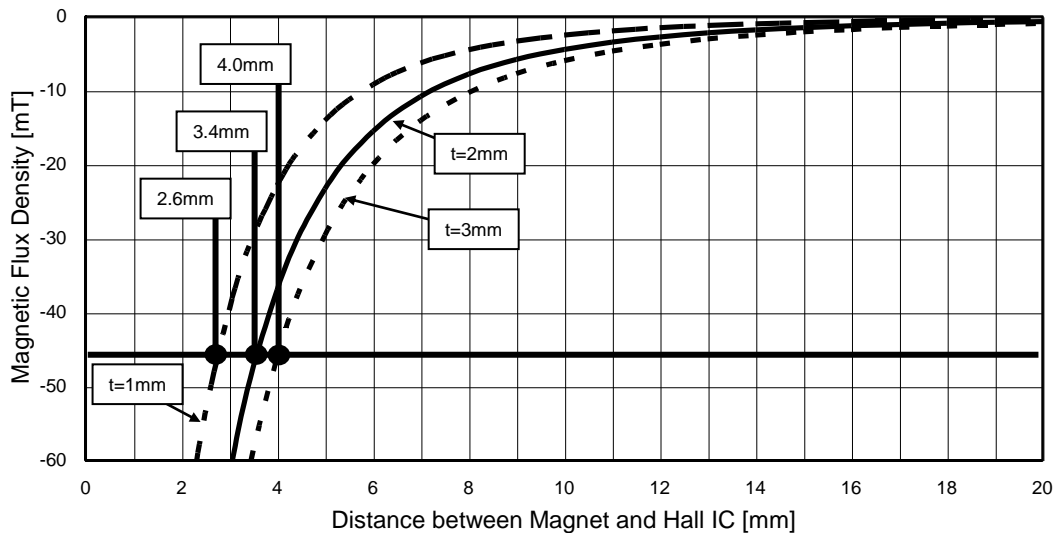
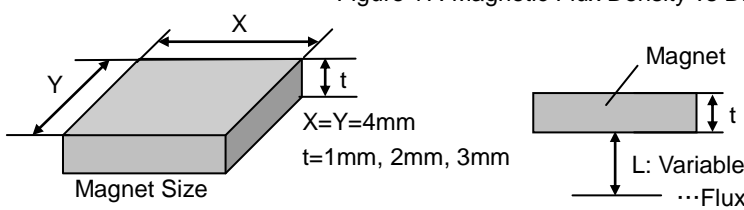

Figure 17. Magnetic Flux Density vs Distance between Magnet and Hall IC
Figure 18. Magnet Dimensions and Flux Density Measuring Point
Of the two representative varieties of permanent magnet, neodymium generally offers greater magnetic power per volume than ferrite, thereby enabling the highest degree of miniaturization, thus, neodymium is best suited for small equipment applications. Figure 17 shows the relation between the size (volume) of a neodymium magnet and magnetic flux density. The graph plots the correlation between the distance (L) from three versions of a 4mm x 4mm cross-section neodymium magnet (1mm, 2mm, and 3mm thick) and magnetic flux density. Figure 18 shows Hall IC detection distance – a good guide for determining the proper size and detection distance of the magnet. Based on the BU52069GWZ operating point min of -47.5mT, the minimum detection distance for the 1mm, 2mm and 3mm magnets would be 2.6mm, 3.4mm, and 4.0mm, respectively. To increase the magnet's detection distance, either increases the magnet's thickness or sectional area.